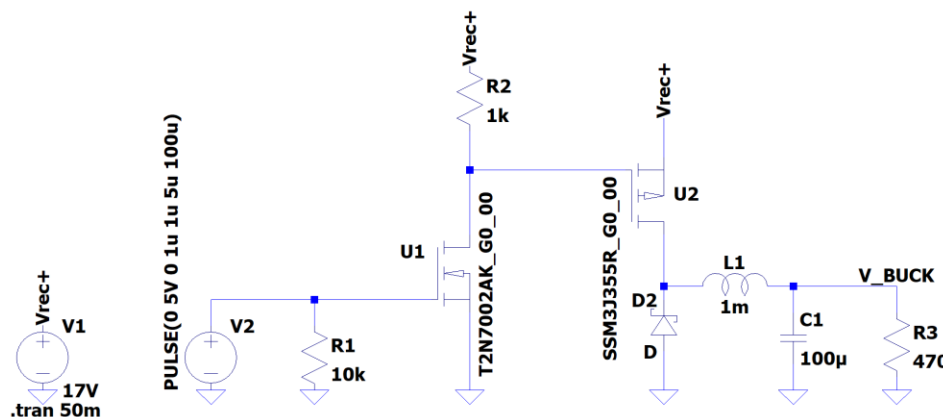

Figure 13: The simulation of the buck converter is available on our LMS.
Let's look at the detailed behavior of the full bridge rectifier by simulating the circuit in Figure 13. I've posted an LTspice simulation file acRectifier.asc on our LMS because you have a lot of work to complete. When you open the file in Ltspice you should see a circuit shown in Figure 1. Next run your simulation and probe the specified nets.
- 6) What is the role of the pair of 10k resistors, R1 and R2, in Figure 13?